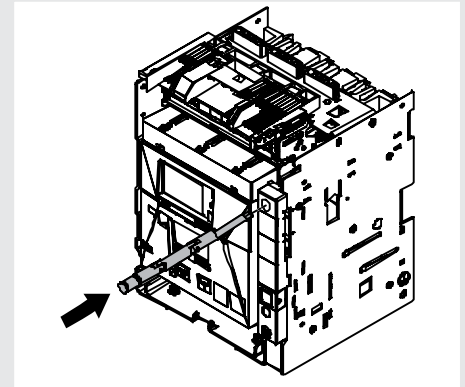

Figure 48
9. Replace the crank in its housing See Figure 48.